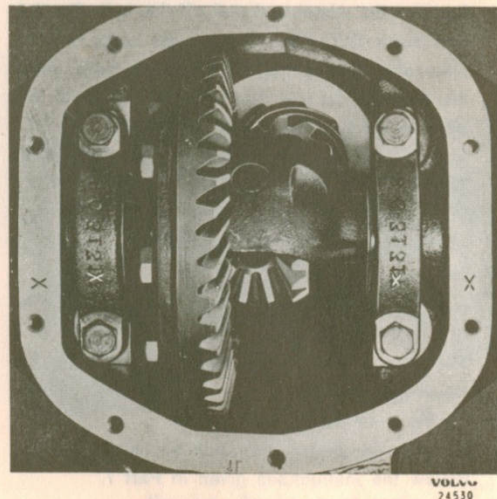

Fig. 5-10. Alignment markings on cap and carrier
6. Check the aligning marks on the cap (2) and the carrier (21), see Fig. 5-10. If there are no markings or the markings are not easy to see, mark one side with a punch. Remove the cap.